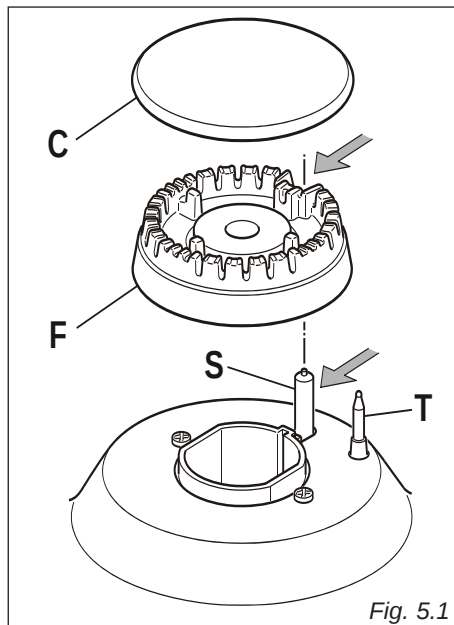

Fig. 5.1
- Check that the probe "T" (figs. 5.1 - 5.3 - 5.4) next to each burner is always clean to ensure correct operation of the safety valves.
- Check that the electrode "S" (figs. 5.1 - 5.3 - 5.4) next to each burner is always clean to ensure trouble-free sparking.
It is very important to check that the burner flame spreader "F" and the cap "C" have been correctly positioned (see figs. 5.1 and 5.2). Failure to do so can cause serious problems.